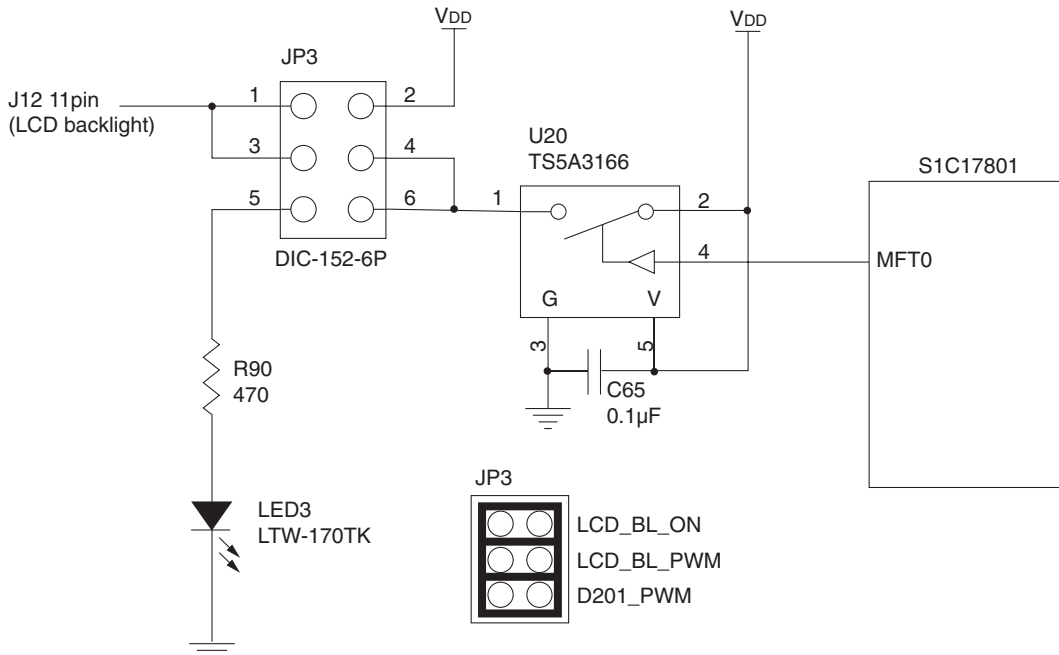

Fig. 15.1 Connection Circuit between MFT0 and LED/LCD Backlight
* MFT0 is an I/O port with 12 mA of drive current. A circuit shown in the figure 15.1 has a pre-stage switch IC, which however can be replaced simply by a 470Ω resistor for direct drive. (The drive current in this case is approximately 7 mA.)